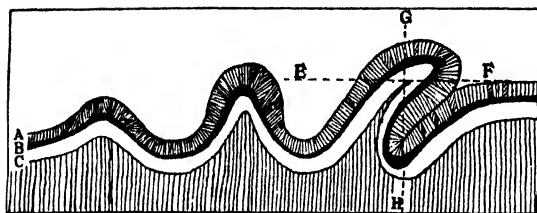

FIG. 412.—How the order of the strata is altered by folding.
be bent into hummocks and finally into folds. The strata in Figure 412 were laid down in the order C, B, A. Now, suppose the rocks were folded as in the picture and then denuded by wind and weather down to the dotted line EF. If we then sink a boring
It is easy to see then that if the crust of the earth were slowly and powerfully pushed in one direction, the strata would be bent into hummocks and finally into folds. The strata in Figure 412 were laid down in the order C, B, A. Now, suppose the rocks were folded as in the picture and then denuded by wind and weather down to the dotted line EF. If we then sink a boring GH we find the strata in the order (going downward) C, B, A, B, C instead of ABC as we should expect. Even folding of this kind does not exhaust the possibilities of a thrusting force. One stratum may be slid over the top of another. The stages are first a fold (1) then an overfold (2) then an overthrust (3).